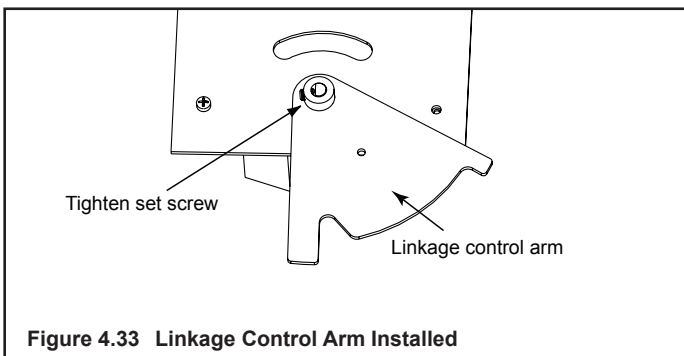

Figure 4.33 Linkage Control Arm Installed
9. • Place linkage control arm over timer shaft and tighten set screw, Figure 4.33.